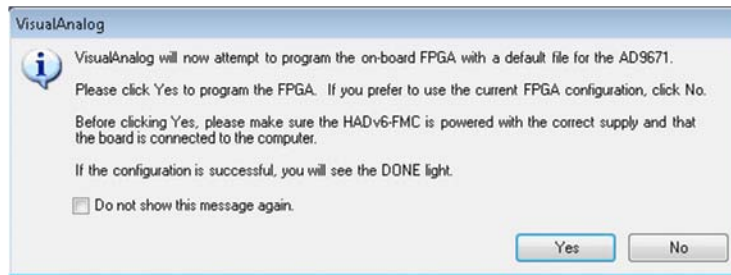

Figure 2. VisualAnalog FPGA Programming Dialog
2. Start VisualAnalog. The software attempts to program the HSC-ADC-EVALEZ data capture board with the default file associated with the detected AD9671EBZ evaluation board. After the file loads, the CONFIG\_DONE LED illuminates on the HSC-ADC-EVALEZ data capture board (see Figure 2). Click **Yes**.